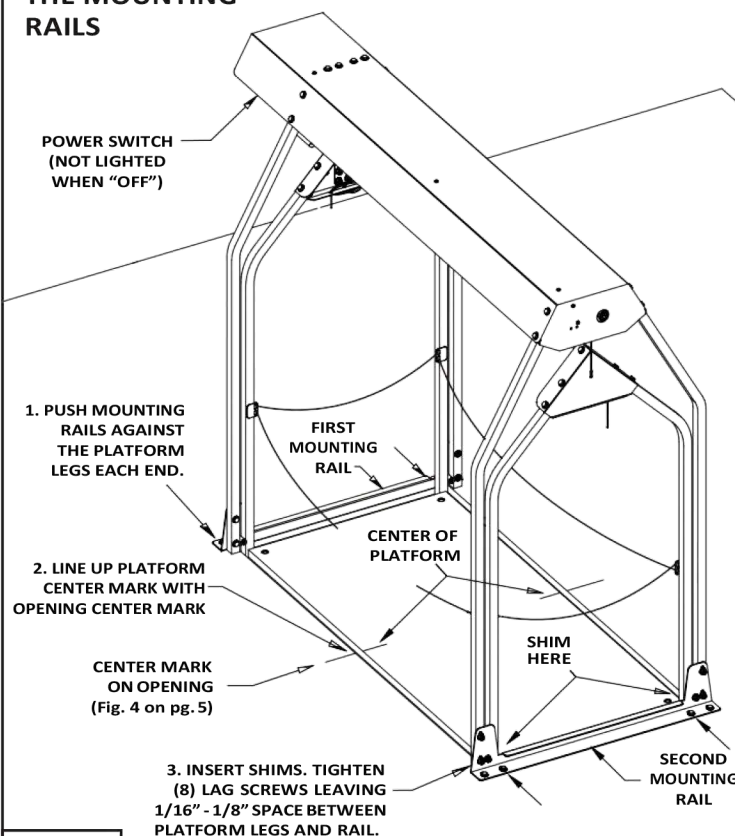

Fig. 35
Adjust the mounting rails to center the lifting platform in the opening. Mark the platform center by measuring 22" in from either end and making a small mark (see Fig. 35).
11.2 With the platform centered and the rails pressed up against each side of the platform, tighten the (4) lag screws on the **first** mounting rail, but don't over-tighten! Place a 1/16" to 1/8" shim spacer between the **second** mounting rail and the platform legs and tighten the remaining (4) lag screws (see Fig. 35).